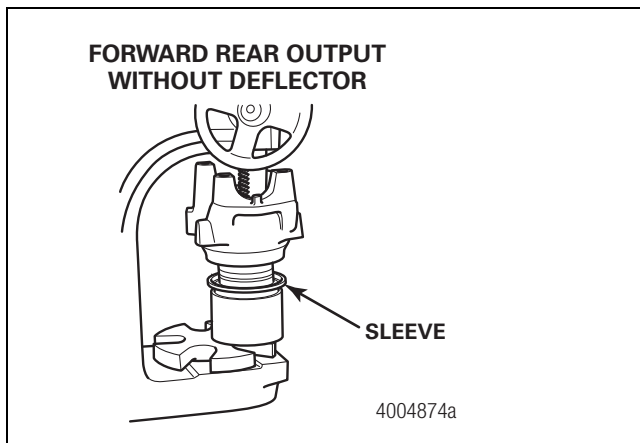

Figure 5.99
4. Apply a light coat of axle oil to the yoke seal journal. Position the sleeve into the forward-rear axle output yoke sleeve driver. Do not touch the greased areas of the sleeve. The sleeve must be kept clean prior to assembly into the seal. Use an arbor press and the appropriate driver to install the sleeve into the yoke. Verify that the sleeve is fully-seated in the yoke to prevent damage to components. Figure 5.99.